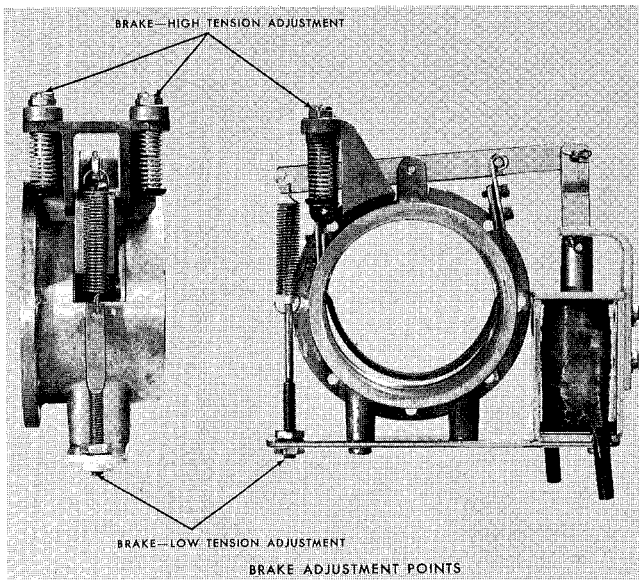

Figure 4-8 BRAKE ADJUSTMENT
Brake adjustment is made (with no power applied to the equipment) at the points shown in Figure 4-8.
Step 6: Adjust the supply and takeup motors brakes for scale readings listed below. Points of adjustment are shown by illustration in Figure 4-8.